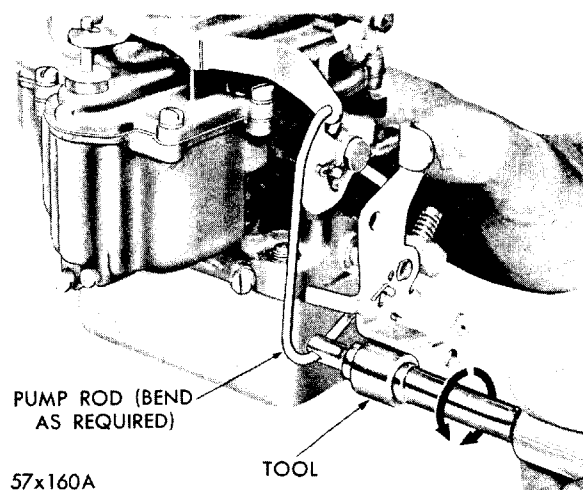

Fig. 29—Bending Accelerator Pump Rod
(3) To adjust, remove the accelerator pump rod from the center hole in the throttle lever and bend (at angle), using Tool T-109-213, as shown in Figure 29. Bend until correct travel has been obtained. Re-install rod.